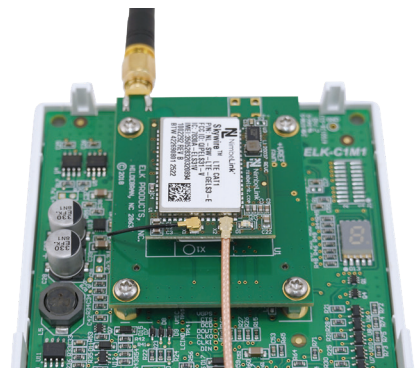

FIGURE 2
4. Route the cable towards the bottom of the board (See Figure 2).